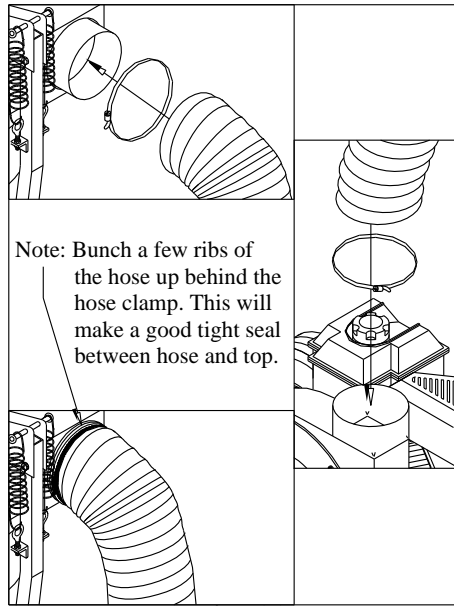

Fig. 11
10. Attach discharge hose (23) to intake nozzle in molded top with 6" band clamp (22) Note: try to bunch a few ribs of hose up between the band clamp and the molded top to achieve a more airtight attachment. Once achieved, attach the other end of exhaust hose to the exhaust on the blower housing with the other 6" band clamp (22) provided. **(Fig. 11)**